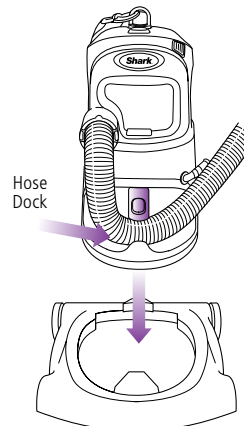
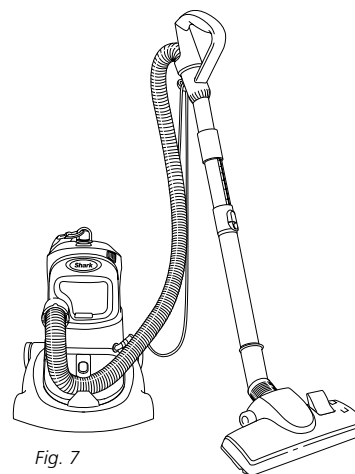

Fig. 6
Fig. 7
- 6 Place the hose in the hose dock. (fig. 6)
- 7 Place the unit over the caddy and press down until it locks into place. (fig. 6, fig. 7)